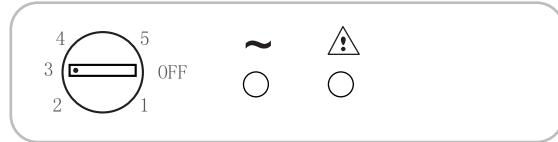

Fig. 1
- The temperature adjustment of both compartments is effected by rotating the thermostat knob (Fig. 1).